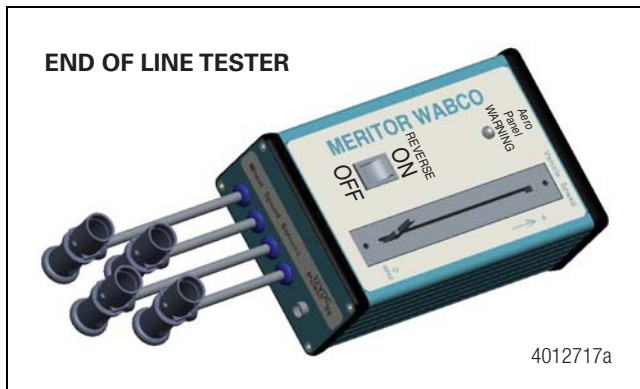

Figure 9
- Wire the box to the wheel speed sensor inputs on the ABS controller as well as provide 12V DC power to the box. The virtual wheel speed sensors do not have to be connected to the ECU in any particular order, nor must all of them be utilized. Figure 9.
6. With the "Reverse" button pressed, the "Aero Panel WARNING" lamp will illuminate. Figure 9.